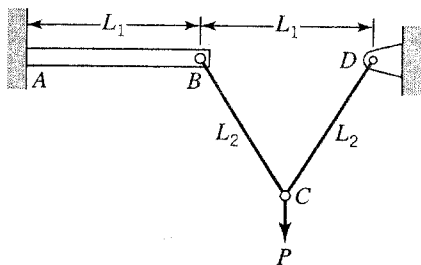

FIGURE P5.33
5.33. The structure in Figure P5.33 is made up of a cantilever beam AB (E_1, I_1, A_1) and two identical rods BC and CD (E_2, A_2). Let A_1 be large compared with A_2 and L_1 be large compared with the beam depth.